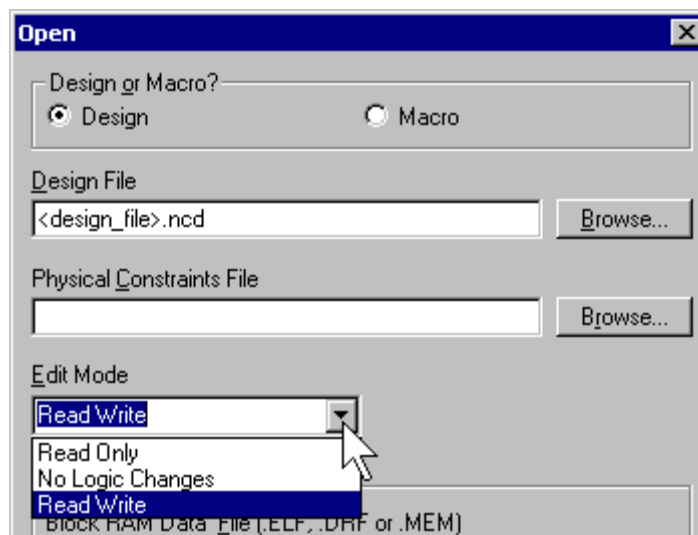

Figure 6: Enable User Editing in FPGA Editor
- Select **File → Open**. Select the *.ncd file for the completed design. Set the **Edit Mode** to “**Read Write**” mode as shown in Figure 6.